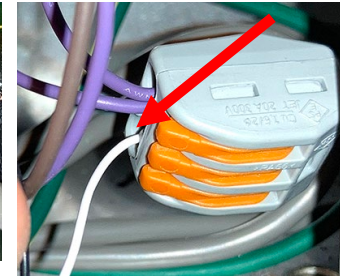

Figure 8
- Disconnect the white & black wires from the harness in the previous step from the Wago snap connectors (see Figure 8 & 9).